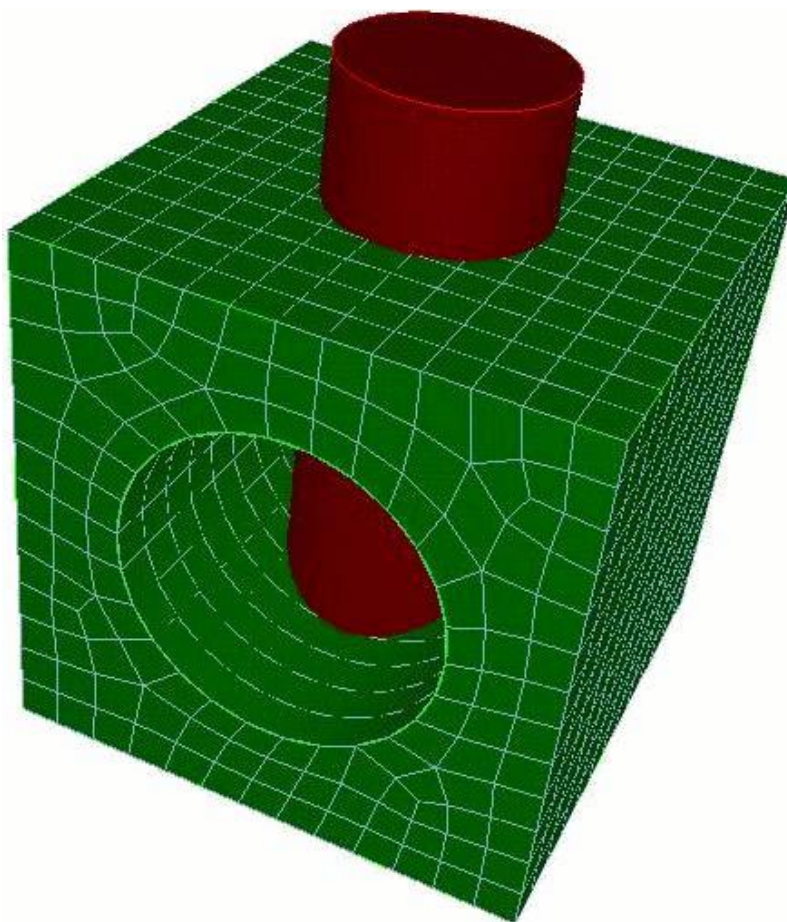

Figure 3: The starting mesh and cutting entity
Step 2: Create a cutting entity. Figure 3 shows the volume that will be used to cut the mesh. The commands are: